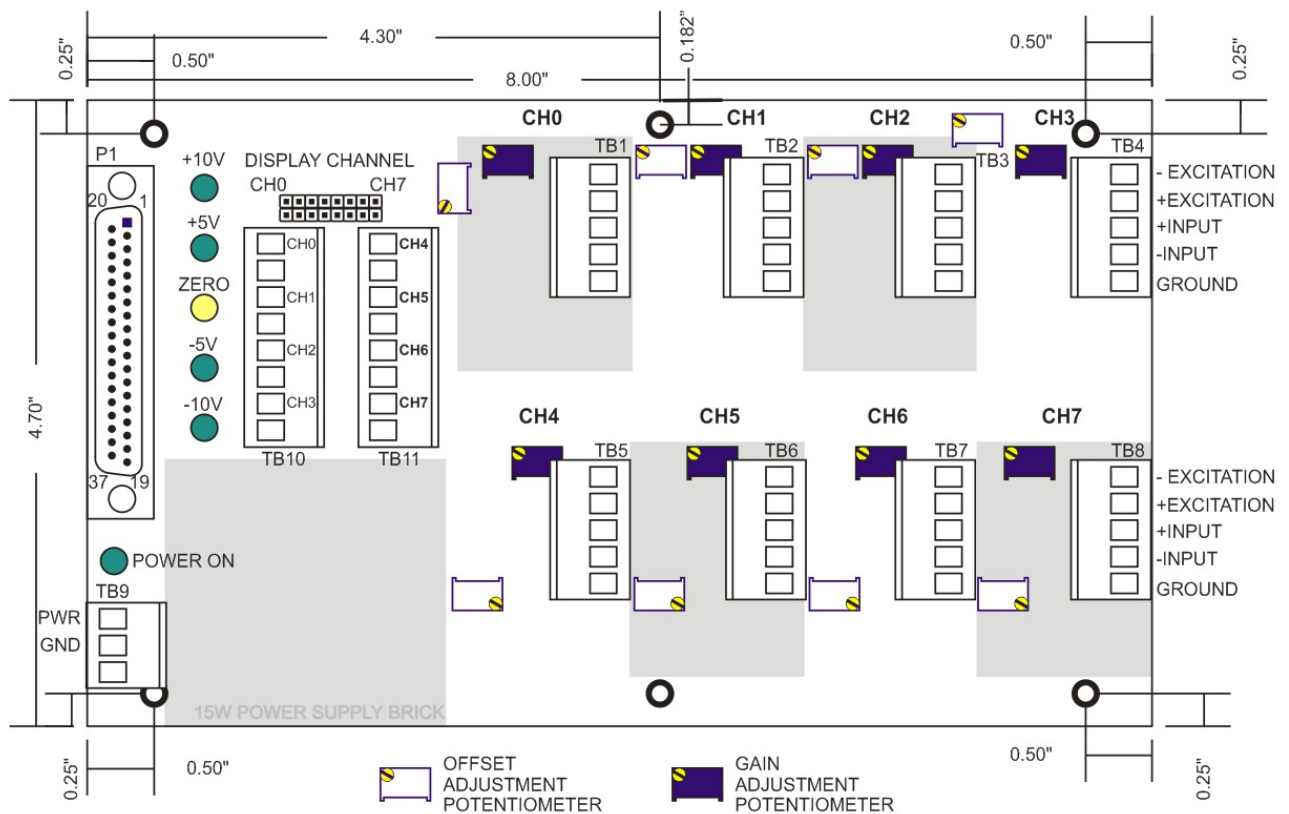

Figure 2-1: Option Selection Map
3. Scaling Output: See Figure 2-1 for positions. Two 20-turn potentiometers are used per channel to scale the VDC output +/- 10 VDC and to adjust the offset. Adjust the LVDT to the desired positive mechanical position, nominally full scale. Turn the gain potentiometer until the output reads + 10.00 volts. Adjust the LVDT to its null position. The output should be 0.0 volts, adjust the offset potentiometer as required. Adjust the LVDT to the desired negative position. The output should be -10.00 volts. A slight adjustment of the gain and offset potentiometers may be necessary to provide the best accuracy across the full plus and minus scale.